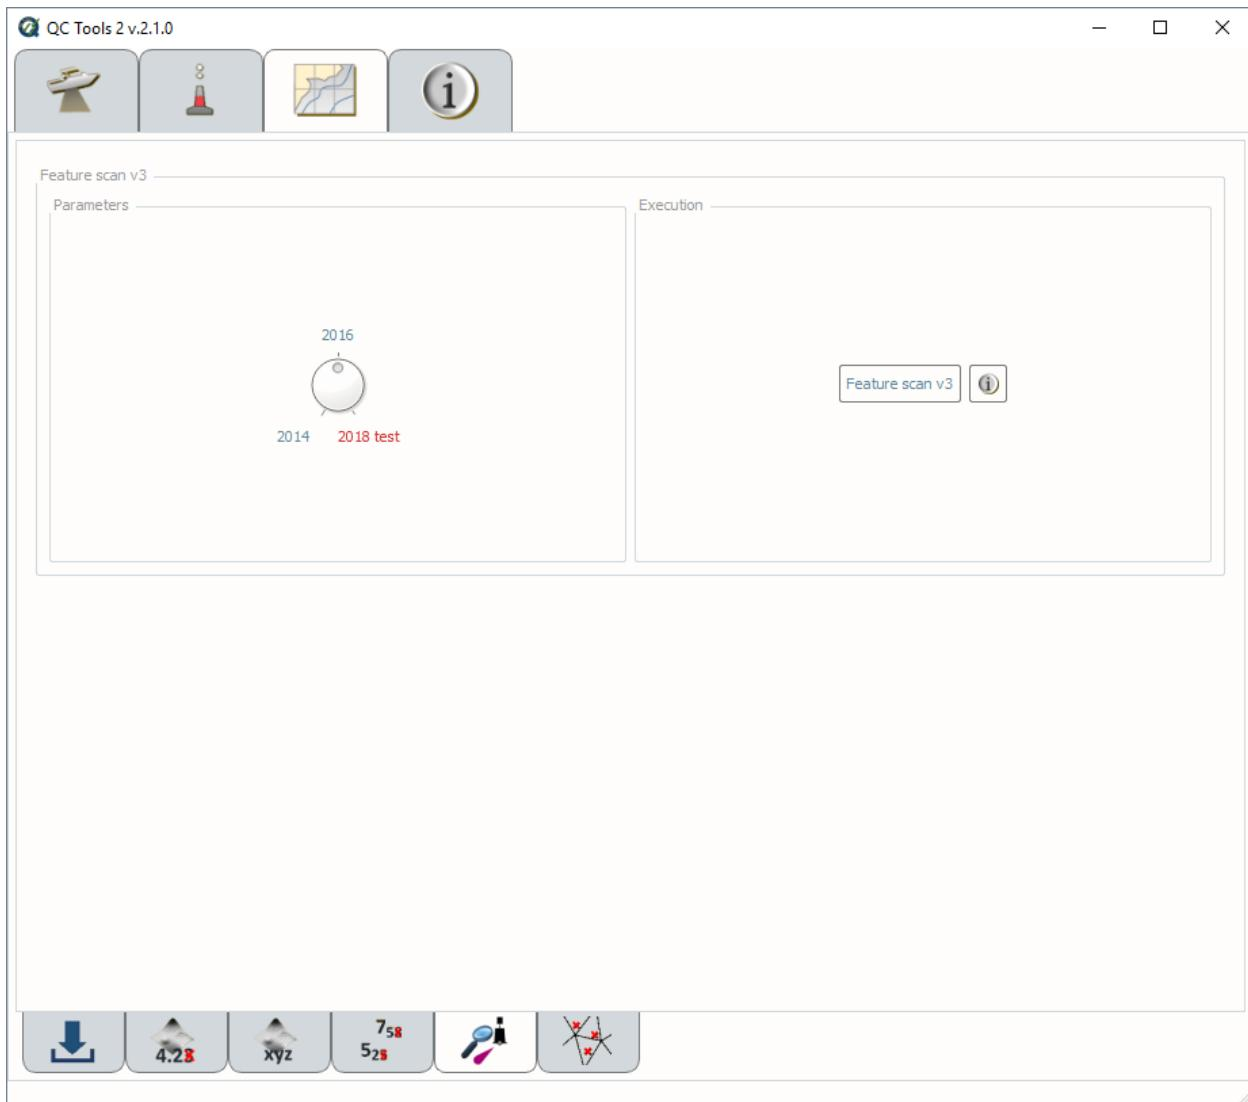

Fig. 2.64: Feature scan's interface.
- In **Parameters** (Fig. 2.64, left side), turn the knob to select the required year of HCell Specification. Currently, the ‘2018 test’ is duplicative to 2016.
- In **Execution** (Fig. 2.64, right side), click **Feature scan v2**.